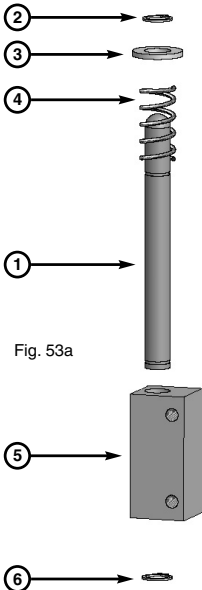

Fig. 53a
Assembly of the semi-fixed leaf release device complex (Fig. 53a, b)
Mount the 8mm seeger (Fig. 53a, part 2) into the appropriate seat on the semi-fixed release device pin (Fig. 53a, part 1).
- one or more 8mm washers to obtain the desired preloading (Fig. 53a, part 3)
- the semi-fixed spring (Fig. 53a, part 4)
- the semi-fixed release device body (Fig. 53a, part 5)
Finish everything with the seeger 8mm (Fig. 53a, part 6) in the appropriate seat.
ATTENTION: It is possible to vary the retention force of the semi-fixed leaf exclusively by adding one or more washers (Fig. 53a, part 3).
ATTENTION: Pay particular attention to the adjustment of the device since any error may compromise the correct operation. Do not use the slots to vary the preloading of the spring, for this purpose action can be taken exclusively at the moment of the device assembly (Fig.53a, b).